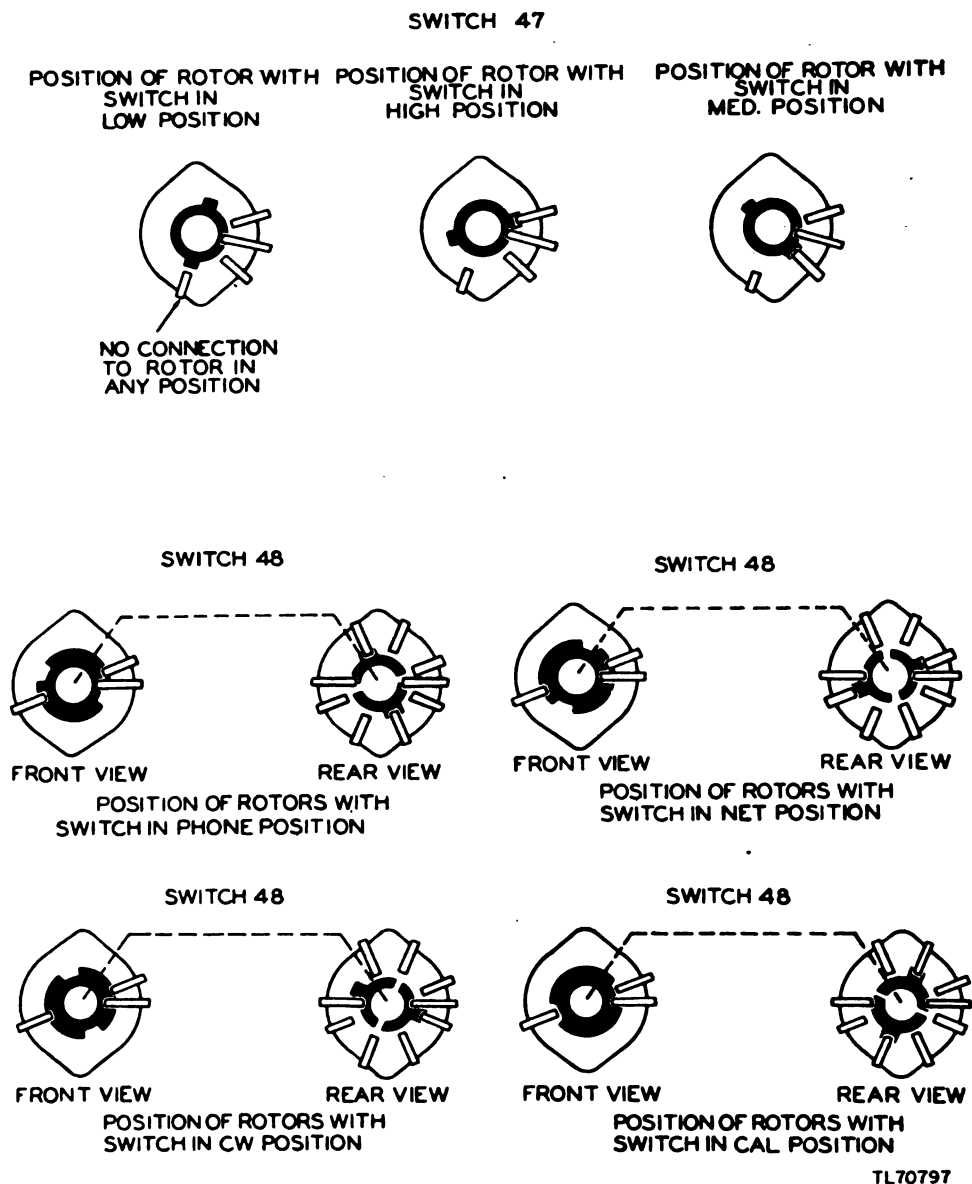

Figure 37. Details of switches 47 and 48 of receiver of Radio Receiver and Transmitter BC-1306.
(2) Details of switches 47 and 48, figure 37.
(3) Voltage and resistance values for plug 54, on stage schematic.
(4) Parts data for power and switching connections, table XVIII.
*b. TROUBLE LOCATION.* (1) *Improper sensitivity switch ratio.* Perform a point-to-point continuity check of the wiring to switch 47.